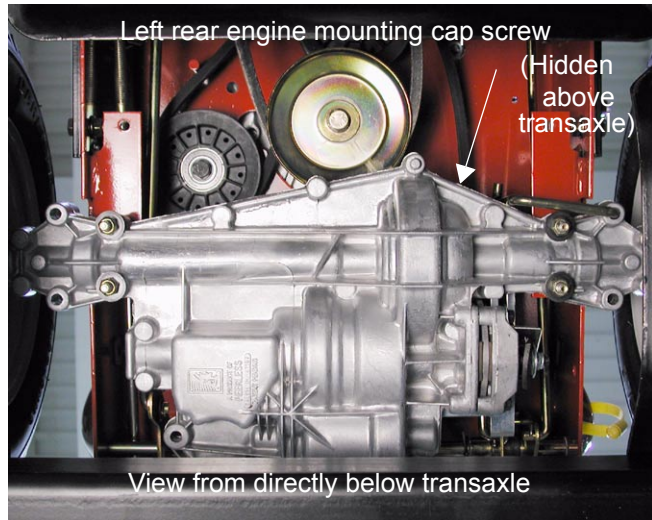

Figure 62
- 15.6. Using a 9/16 inch socket and extension, remove the left rear engine mounting hex cap screw. See Figure 62.